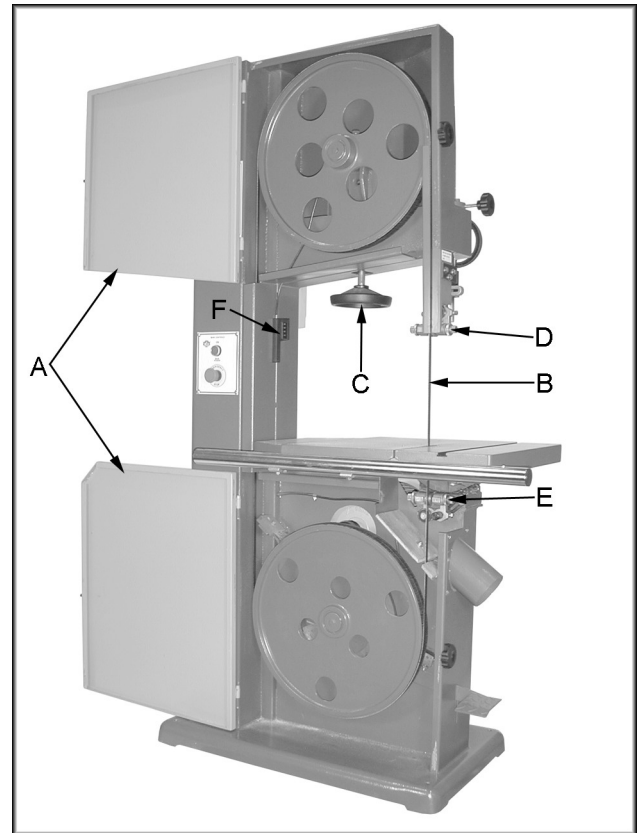

Figure 4
2. Open upper and lower doors (A, Figure 4).
5. Center the blade (B, Figure 4) on both the upper and lower wheels. Carefully thread the blade through the upper and lower blade guides as shown in Figure 4. **Note:** It may help to move the upper wheel down. This can be accomplished by rotating the handwheel (C, Figure 4).
2. At this point the blade should be properly positioned, but slack. Increase tension on the blade by rotating tensioning handwheel (C, Figure 4).
3. Move the upper guide assembly (D, Figure 4) and lower guide assembly (E, Figure 4) if they interfere with the blade during tensioning.
4. A reference gauge (F, Figure 4) indicates the approximate tension setting. **Note:** After setting tension and achieving the desired results make a note of what the tension gauge reads for the particular blade. This will help you get back to the desired tension if the particular blade has been removed or tension released. Keep in mind that blades will last longer if you release tension when not in use. Also, new blades will often stretch with use, and not all blades will be exactly the same length. Use blade